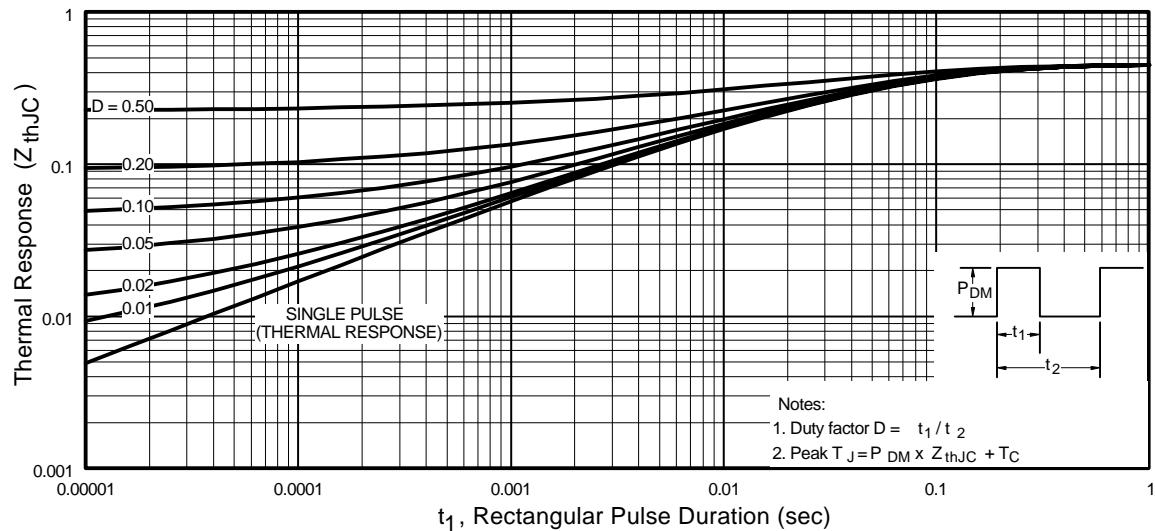

Fig 11. Maximum Effective Transient Thermal Impedance, Junction-to-Case
- ① Repetitive rating; pulse width limited by max. junction temperature. (See fig. 11)
- ② Starting $T_J = 25^\circ\text{C}$, $L = 4.3\text{mH}$